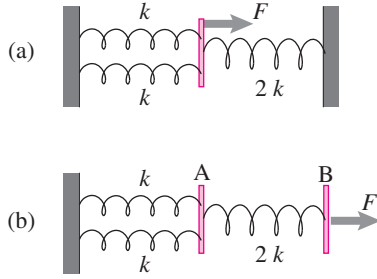

Figure 7.14
SAMPLE 7.2 Stiffness of three springs: For the spring networks shown in Fig. 7.14(a) and (b), find the equivalent stiffness of the springs in each case, given that each spring has a stiffness of $k = 20 \text{ N/m}$.
1. In Fig. 7.14(a), all springs are in parallel since all of them undergo the same displacement Δx in order to balance the applied force F . Each of the two springs on the left stretches by Δx and the spring on the right compresses by Δx . Therefore, the equivalent stiffness of the three springs is
2. In Fig. 7.14(b), the first two springs (on the left) are in parallel but the third spring is in series with the first two. To see this, imagine that, in equilibrium, point A moves to the right by Δx_A and point B moves to the right by Δx_B . Then each of the first two springs has the same stretch Δx_A while the third spring has a net stretch $= \Delta x_B - \Delta x_A$. Therefore, to find the equivalent stiffness, we can first replace the two parallel springs by a single spring of equivalent stiffness $k_p = k + k = 2k$. Then the springs with stiffnesses k_p and $2k$ are in series and therefore their equivalent stiffness k_s is found as follows: